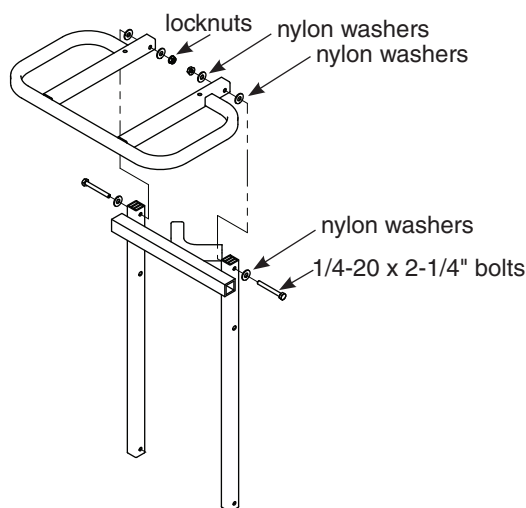

FIGURE 1A
1. Bolt the metal seat frame (C30) or (C33) onto the seat post using the (2) provided 1/4-20 x 2-1/4" bolts, locknuts and (6) nylon washers. **SEE FIGURES 1A or 1B. DO NOT tighten all nut & bolt assemblies completely!**